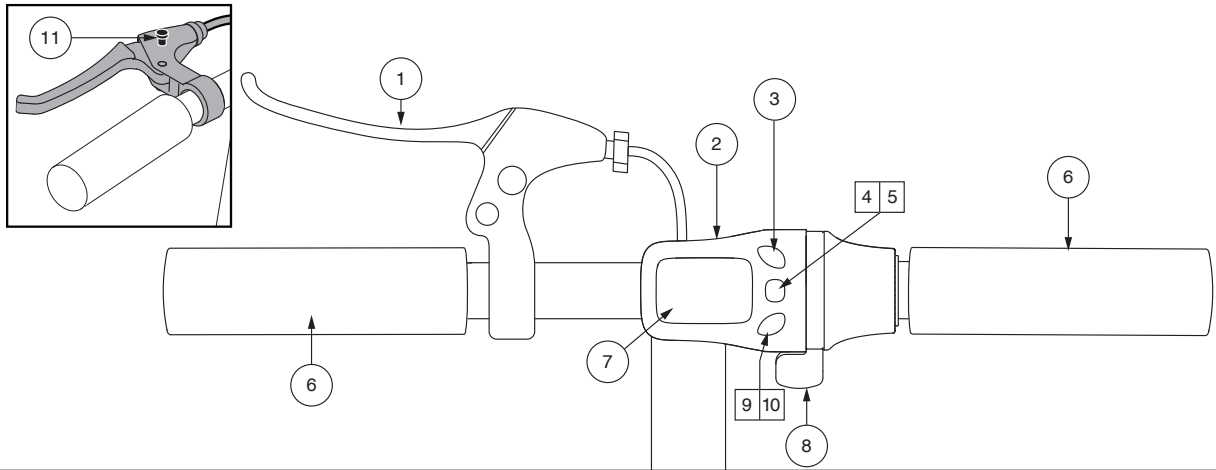

Figure 12. Tiller Console -B
Press and hold the mode select/power button for two (2) seconds to power up LCD display and start scooter. See figure 12.
- Press the Speed Down/Reverse button on your tiller console until reverse is selected. See figure 12.
- Come to a complete stop and press the Speed Up button on your tiller console to select one of the available preset speeds to move forward. See figure 12.
- Press and hold the Speed Down/Reverse button for two (2) to illuminate the LCD Display.